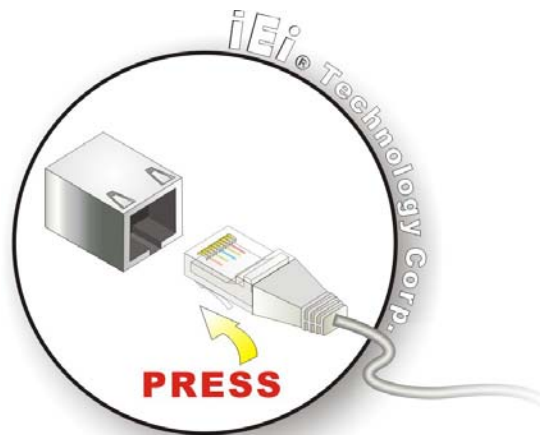

Figure 2-5: LAN Connection
Step 2: Align the connectors. Align the RJ-45 connector on the LAN cable with one of the RJ-45 connectors on the bottom panel. See Figure 2-5..